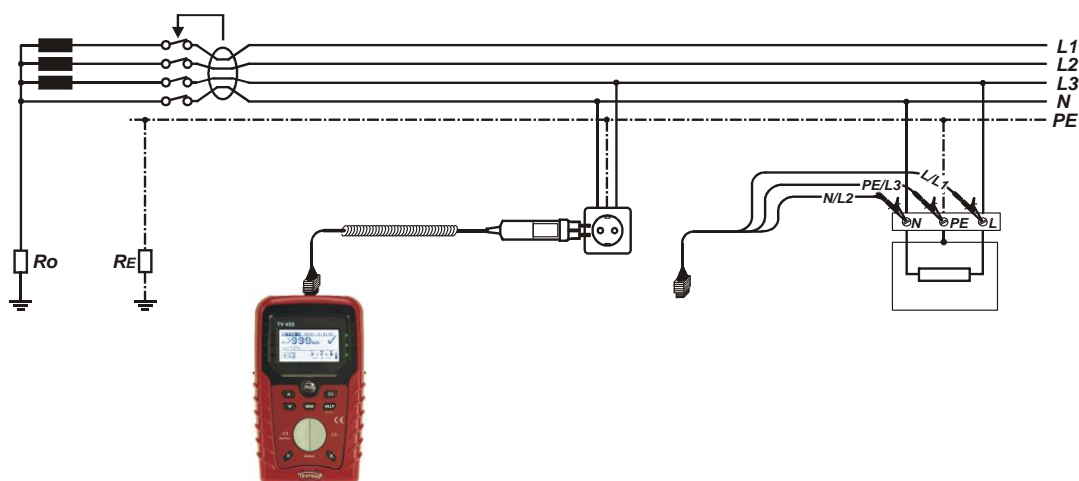

Figure 5.17: Connecting the plug commander and the 3-wire test lead
- ❑ **Connect** test leads to the item to be tested (see *figure 5.17*).
- ❑ **Connect** test leads to the item to be tested (see figure 5.17).
<ul style="list-style-type: none"> <li><input type="checkbox"/> Select the RCD function using the function selector switch.</li> <li><input type="checkbox"/> Set sub-function AUTO.</li> <li><input type="checkbox"/> Set test parameters (if necessary).</li> <li><input type="checkbox"/> Connect test cable to the instrument.</li> <li><input type="checkbox"/> Connect test leads to the to the item to be tested (see figure 5.17).</li> <li><input type="checkbox"/> Press the TEST key to perform the test.</li> </ul>	Start of test